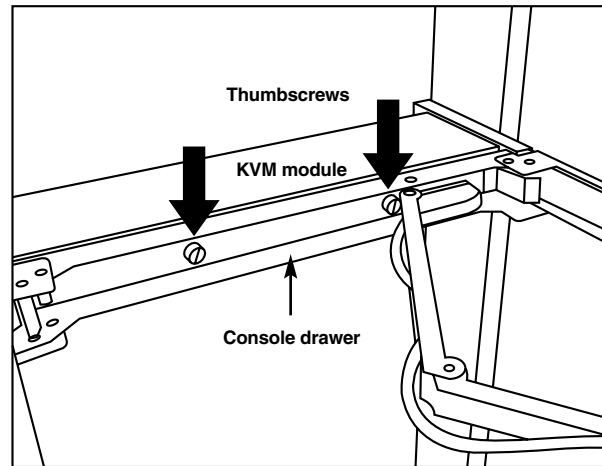

Figure 3-7. Securing the KVM module to the console drawer.
9. Slide out the console drawer. Push the KVM module evenly toward the drawer and secure both units using the thumbscrews. See Figure 3-7.